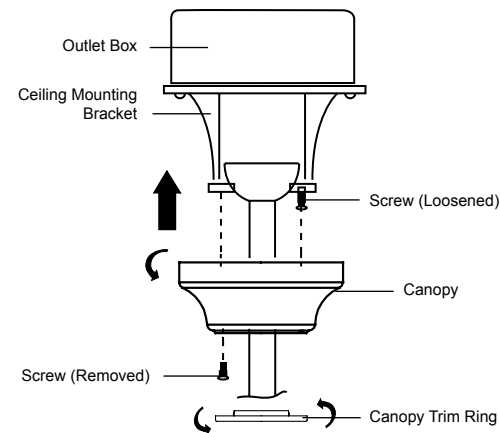

Fig. 11
Step 2. Carefully raise the canopy up to the ceiling mounting bracket and place the keyhole slot in the canopy over the screw head on the ceiling mounting bracket. Rotate the canopy until it locks in place against the screw at the narrow section of the keyhole slot. **(Fig. 11)**
NOTE: Adjust the screws as necessary until the canopy and canopy trim ring are snug. **(Fig. 11)**